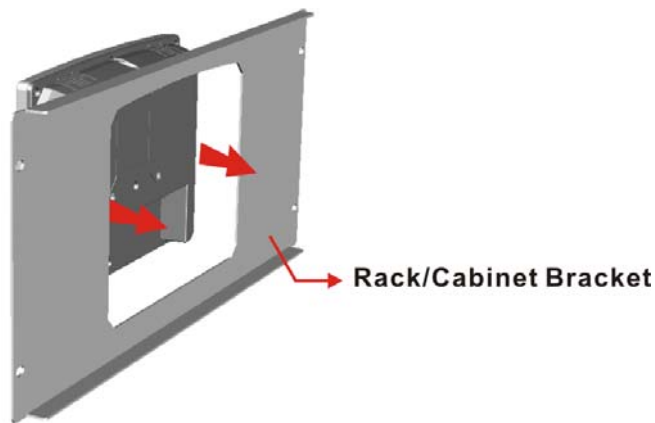

Figure 2-15: The Rack/Cabinet Bracket
Step 1: Slide the rear of the AFL-08B-N270 panel PC through the rack/cabinet bracket until the aluminum frame is flush against the front of the bracket (**Figure 2-15**).